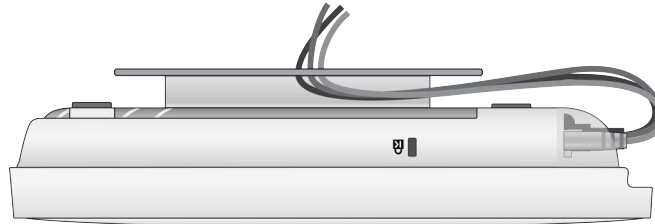

Figure 26. Fitting the Cables in the Cable Hide
4. Place the Ethernet cable(s) and power cable (if any) along the cable guides inside of the top cover in the cable hide space. See Figure 26.